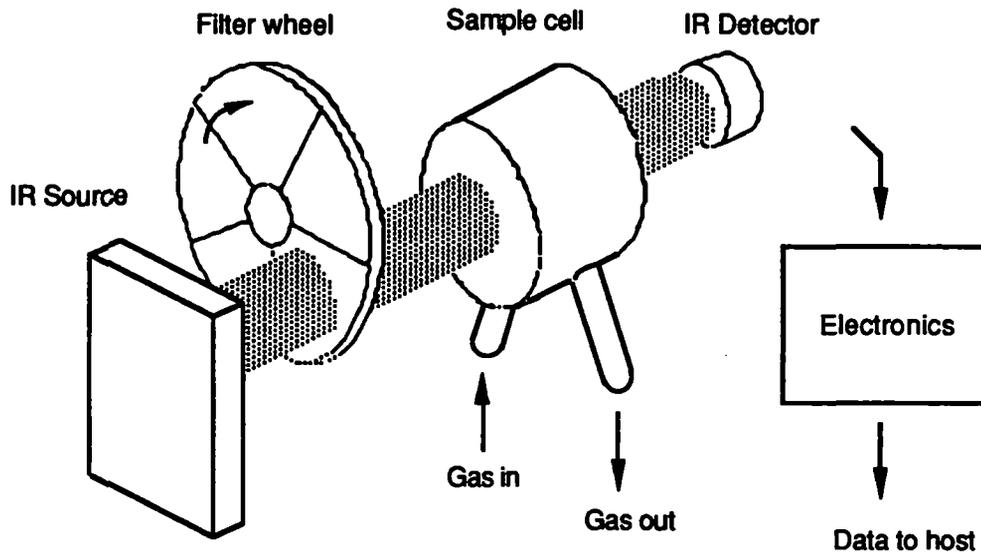

Figure 3-1. Simplified Gas Analyzer
**Optical path:** A sample of the gas to be identified flows through a small volume called a sample cell, as shown in Figure 3-1. A beam of infrared light is passed through the cell, and is detected by an infrared sensor.
Figure 3-1 shows the main components of the Optical Assembly.